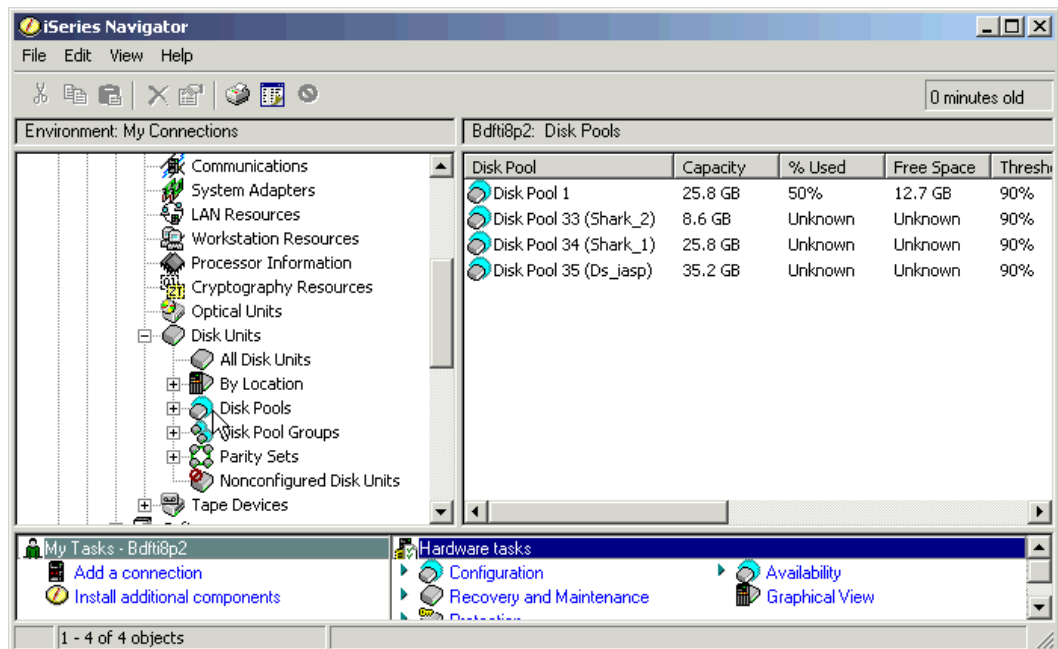

Figure B-20 New Disk Pool shown on iSeries Navigator
15. The new Disk Pool can be seen on iSeries Navigator **Disk Pools** in Figure B-20.